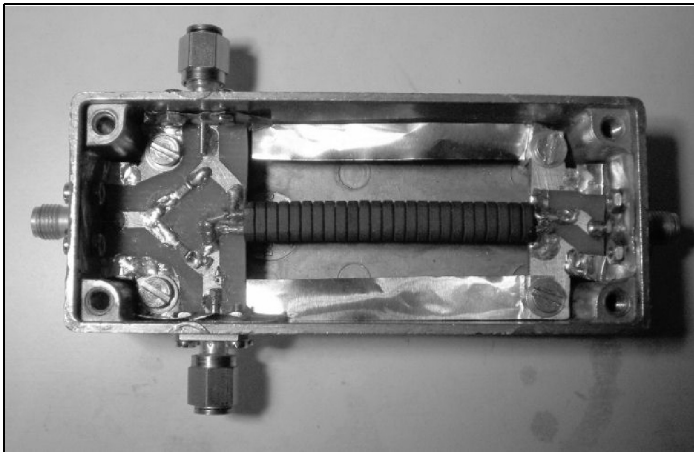

Fig 3: Top view of the return loss bridge.
I began by selecting a metal box from my junk drawer (more of a trunk than a drawer), and I found a good rectangular Eddystone aluminium box (93mm x 34mm x 30mm) that I bought in Friedrichshafen from a British seller. It was perfect for my project: see Fig 3.
I designed a small PCB for the RF input to support two 51Ω SMD resistors to reduce parasitic inductance and be as symmetric as possible. It is placed at one end of the box to give more space for the balun transformer. At the far end I positioned a second small PCB that is just a support for the balun transformer and the SMA output to the detector (in my case a spectrum analyser) see Fig 3.
- PCBs. In the picture (Fig 3) you can see the two very small PCBs. These were mainly to support the SMD resistors, but there is no real advantage in having them. I haven't even added the PCB layout because they depend too much on the box available.